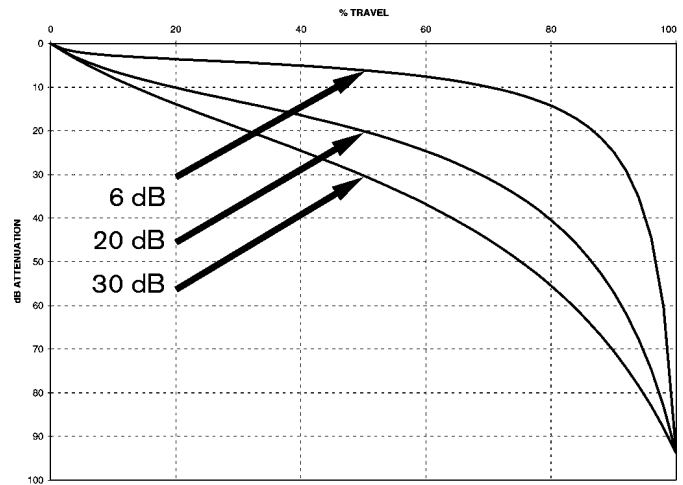

Figure 2. Contour Switch
- ③ **BALANCE** controls are used for **LEFT/RIGHT** balance of **PGM 1** and **PGM 2** or for **LEFT/RIGHT** Pan effect. Push the control to the left and sound moves to the left channel. Push the control to the right and sound moves to the right channel.
- ④ **EFFECTS** engage switches are provided for **PGM 1** and **PGM 2**. *These two switches determine the location of a single, assignable, stereo **EFFECTS LOOP**.*
⑤ **CONTOUR** switches provide three tapers for **PGM 1** and **PGM 2 Program Faders**. The numbers **6**, **20** and **30** indicate the mid-point attenuation. Settings can provide smooth fade or cut and scratch effects. Note from the graph shown in Figure 2, that the **6 dB** setting provides a *quick on* contour for cut and scratch (0% travel is with Program Fader up). When used with the **HAMSTER** reversal switch, the **Program Fader** operates very similar to the **Crossfader**, allowing the same hand motion for cut and scratch operation. The **20 dB** setting provides a normal audio taper while the **30 dB** setting provides a more rapid fade out.